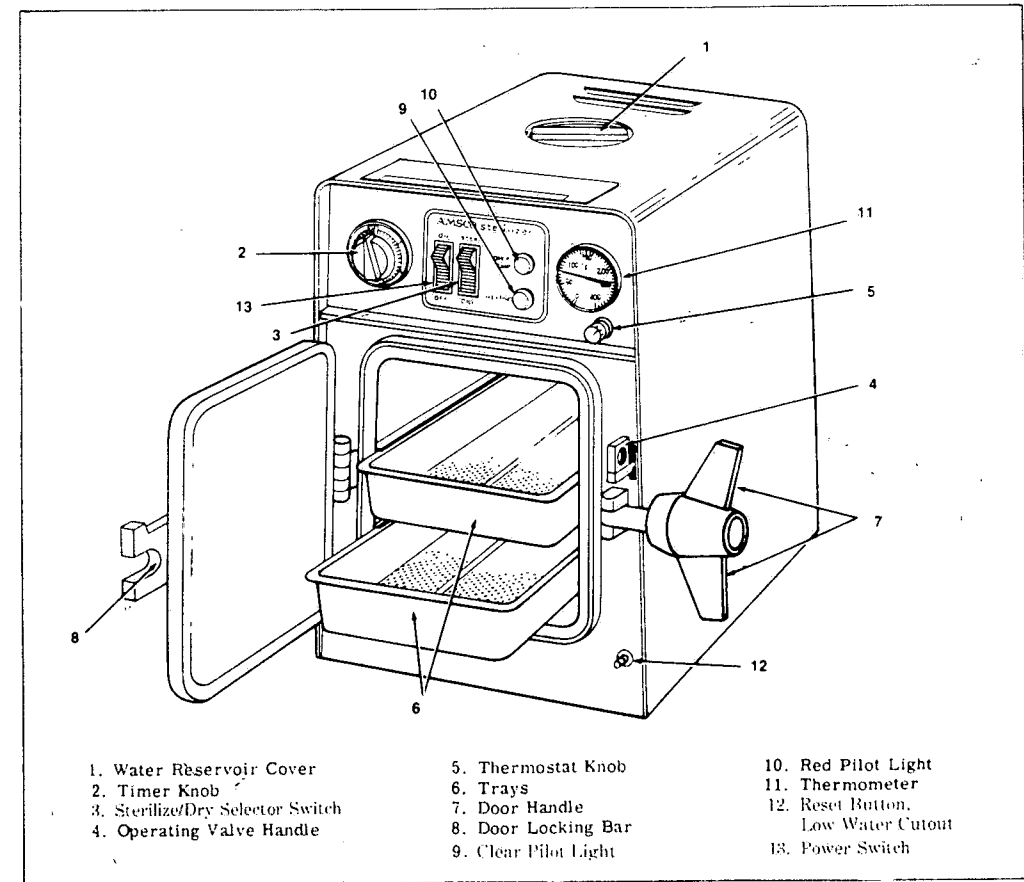

Figure 3-1. Controls
1. Remove the water reservoir cover (1, fig. 3-1) and fill the reservoir with water to about 1/2 inch below the filling opening (approximately 3 quarts). Replace the water reservoir cover.
4. Open the sterilizer door and remove the trays (fig. 3-1) so that the water level indicator in bottom of the inner liner is clearly visible.